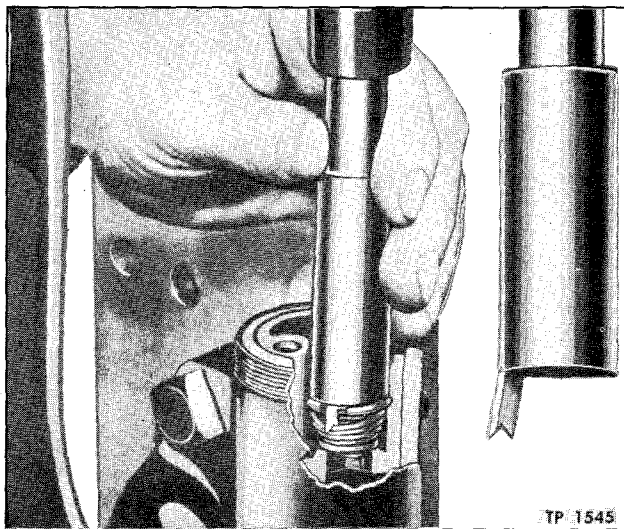

Figure 5—Installing Valve Spring Retainer
2. Tighten piston screws firmly, then back off one to one and a half turns to prevent binding between cam (19) and cam buttons (7); then install new plugs (20) over piston screws.
3. Replace intake valves (17), springs (16), and valve spring retainer clips (15), using special tool (J-896-A) as shown in figure 5.
4. Install rebound valve (10), spring (9), and valve nut (8). Install compression valve (11), spring (12), and valve nut (13). Use new gaskets.
5. Install one end cap (5) using new gasket; then rotate unit and fill to capacity with fluid. While filling, move arm to expel air from fluid.